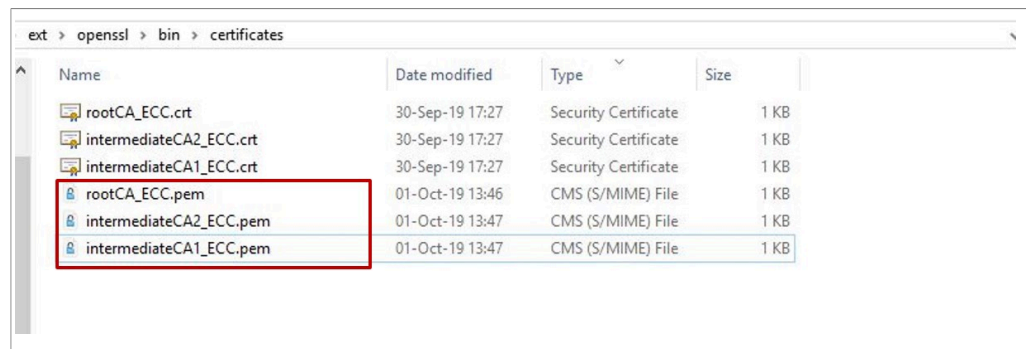

Figure 18. Folder containing the CA certificates in PEM format
5. The certificates folder should now contain the required certificates in PEM format as shown in Figure 18: